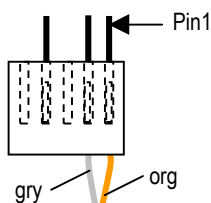

Fig. 7:
- If using the additional Service Kit 1.630.060.00, replace the 3-pin housing of the lock solenoid connector (plugged to socket J4) by the 5-pin housing contained in the kit, refer to fig. 7.